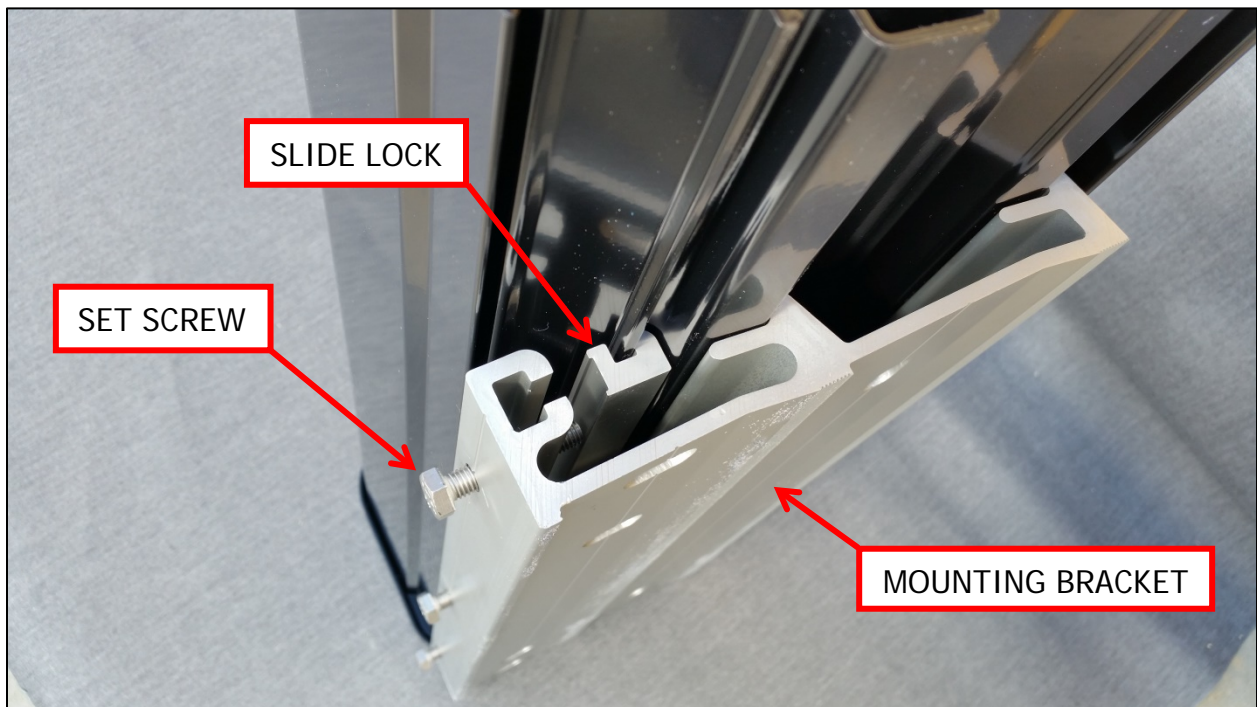

Figure 1
- a. To remove the brackets locate the slide lock that retains the bracket to the housing. (Figure 1)